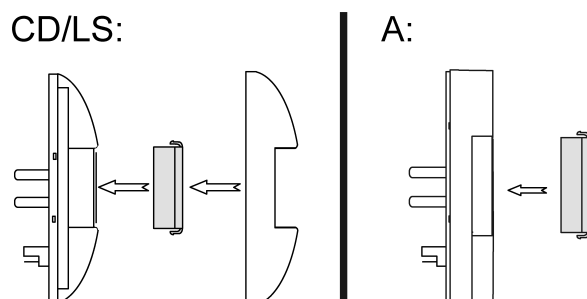

Figure 14: Mounting of panel series CD/LS and A
- Mount the cover for the left or right side of the device (Figure 14).
- Mount the cover from the front on the left or right side of the device (Figure 14).